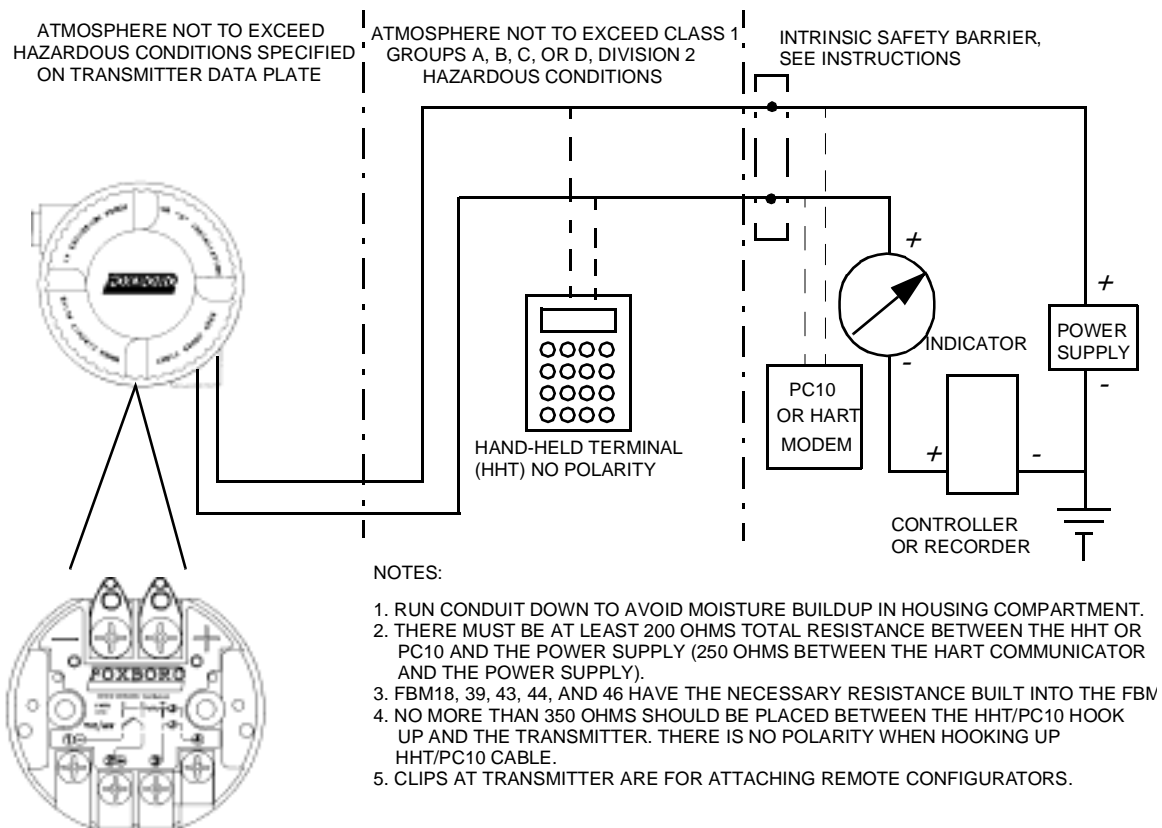
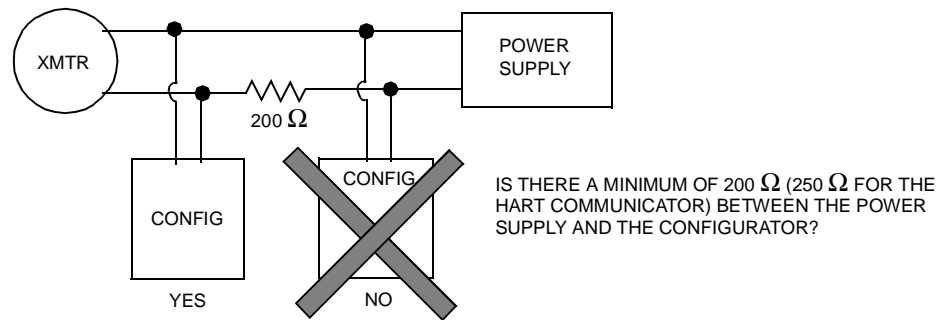
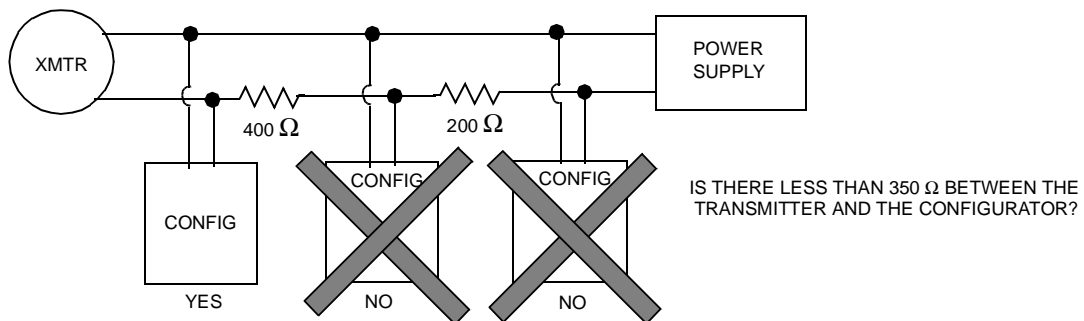

Figure 16. Typical Transmitter Wiring with a 4 to 20 mA Output
Figure 19. Minimum Load between Power Supply and Configurator
Figure 20. Maximum Load between Transmitter and Configurator
Foxboro I/A Series System will not integrate the HART *digital* output directly in the control system. There will not be any bi-directional communications between the transmitter and the control system which eliminates the multi-drop wiring capability. Therefore, the 4 to 20 mA output can only be wired to the analog FBM01 or FBM04. To ensure proper communications with the HART Model 275 Communicator (Foxboro Model HT991), Foxboro AB0991 software or any other HART-based remote configurator, a minimum load of at least 250 ohms must be located between the FBM and the point in the loop wiring where the remote configurator is attached (refer to Figure 19). Transmitter power is supplied through the FBM or from a remote power supply.
ing where the remote configurator is attached (refer to Figure 19). Transmitter power is supplied through the FBM or from a remote power supply.
2. Run signal wires (0.50 mm² or 20 AWG, typical) through one of the transmitter conduit connections as shown in Figure 16. Use twisted pair to protect the 4 to 20 mA output and/or remote communications from electrical noise. Maximum recommended length for signal wires is 1800 m (6000 ft). Screened (shielded) cable may be required in some locations.
4. Connect receivers (such as controllers, recorders, indicators) in series with power supply and transmitter as shown in Figure 16.
7. The remote configurator can be connected in the loop (subject to hazardous location restrictions) as shown in Figure 16, Figure 19, and Figure 20.
Figure 19 and Figure 20 show restrictions on the connection of the configurator in the loop.